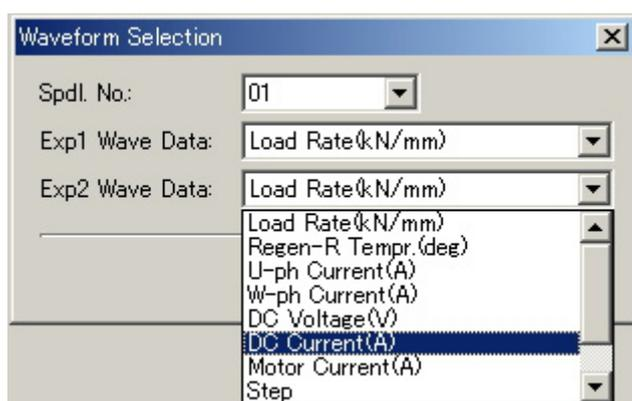

Fig. 7-2-5 Waveform selection screen
| (8) | Waveform selection | The screen which chooses the data of the extended waveforms 1 and 2 is displayed. Please refer to a figure 7-2-5 waveform selection screen. |